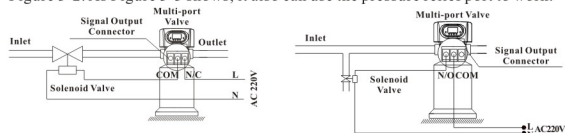

Figure 3-2 Wiring of Solenoid Valve on Inlet
**Instruction:** When inlet pressure exceeds 0.6MPa, install a solenoid valve on inlet. Control mode is b-02. Pressure relieved when valve switching, the wiring refers to Figure 3-2. As Figure 3-3 shows, it also can use the pressure relief port to work.